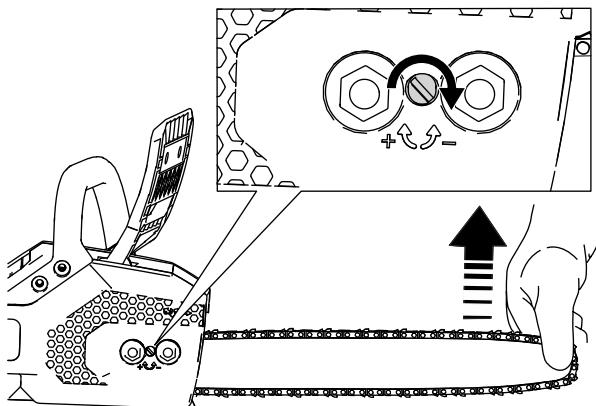

Figure 27
6. Hold up the tip of the guide bar (Figure 27).
- **To tighten the chain**, turn the chain tensioning screw clockwise (Figure 27).